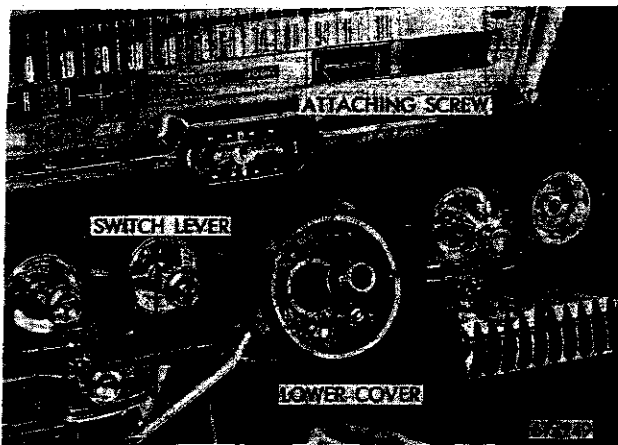

Fig. 114—Directional Switch and Lever—
- (7) Remove the directional switch lever (Fig. 114).
- (8) Remove the steering column lower cover.
- (9) Remove the two screws and disconnect the switch wires at the connection and remove the directional switch and wires.